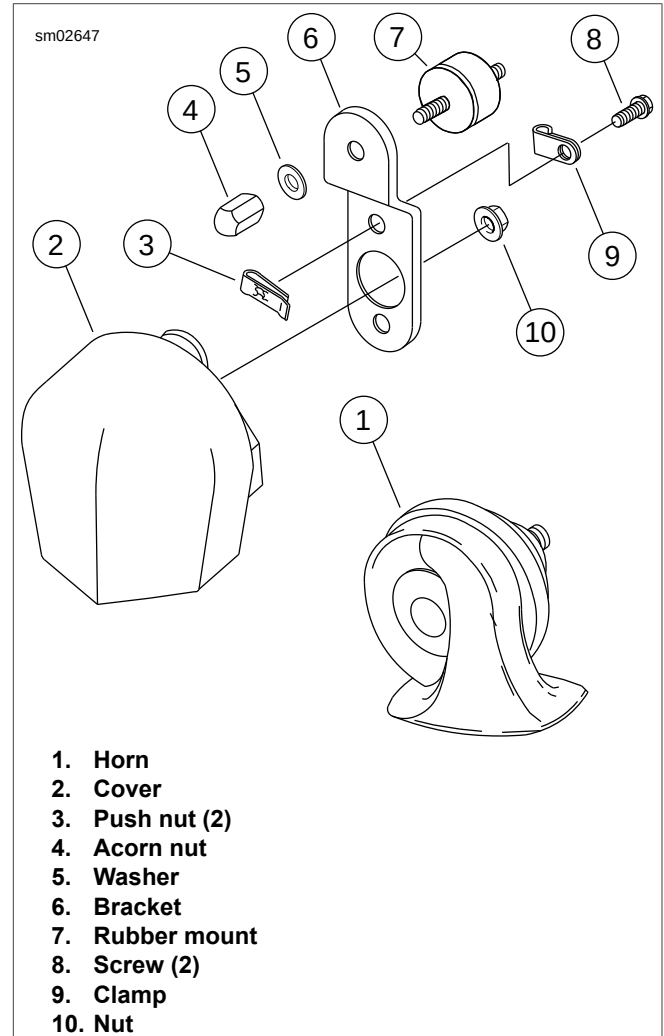

Figure 7-100. Horn: All But FXS/B
1. See Figure 7-100. Remove acorn nut (4) and washer (5) to detach horn bracket (6) from vehicle.
3. Remove screws (8) and nut (10) to detach horn from bracket. Free wires from clamp (9).
- a. Secure with screws (8), and push nuts (3). Tighten screws to 35-55 **in-lbs** (4.0-6.2 Nm).
- b. Install nut (10) and tighten to 80-100 **in-lbs** (9.0-11.3 Nm). Fold wires under clamp (9).
6. Attach horn bracket to vehicle using washer (5) and acorn nut (4). Tighten nut to 80-100 **in-lbs** (9.0-11.3 Nm). When tightening fasteners, be sure the horn does not contact the horn cover or other parts.